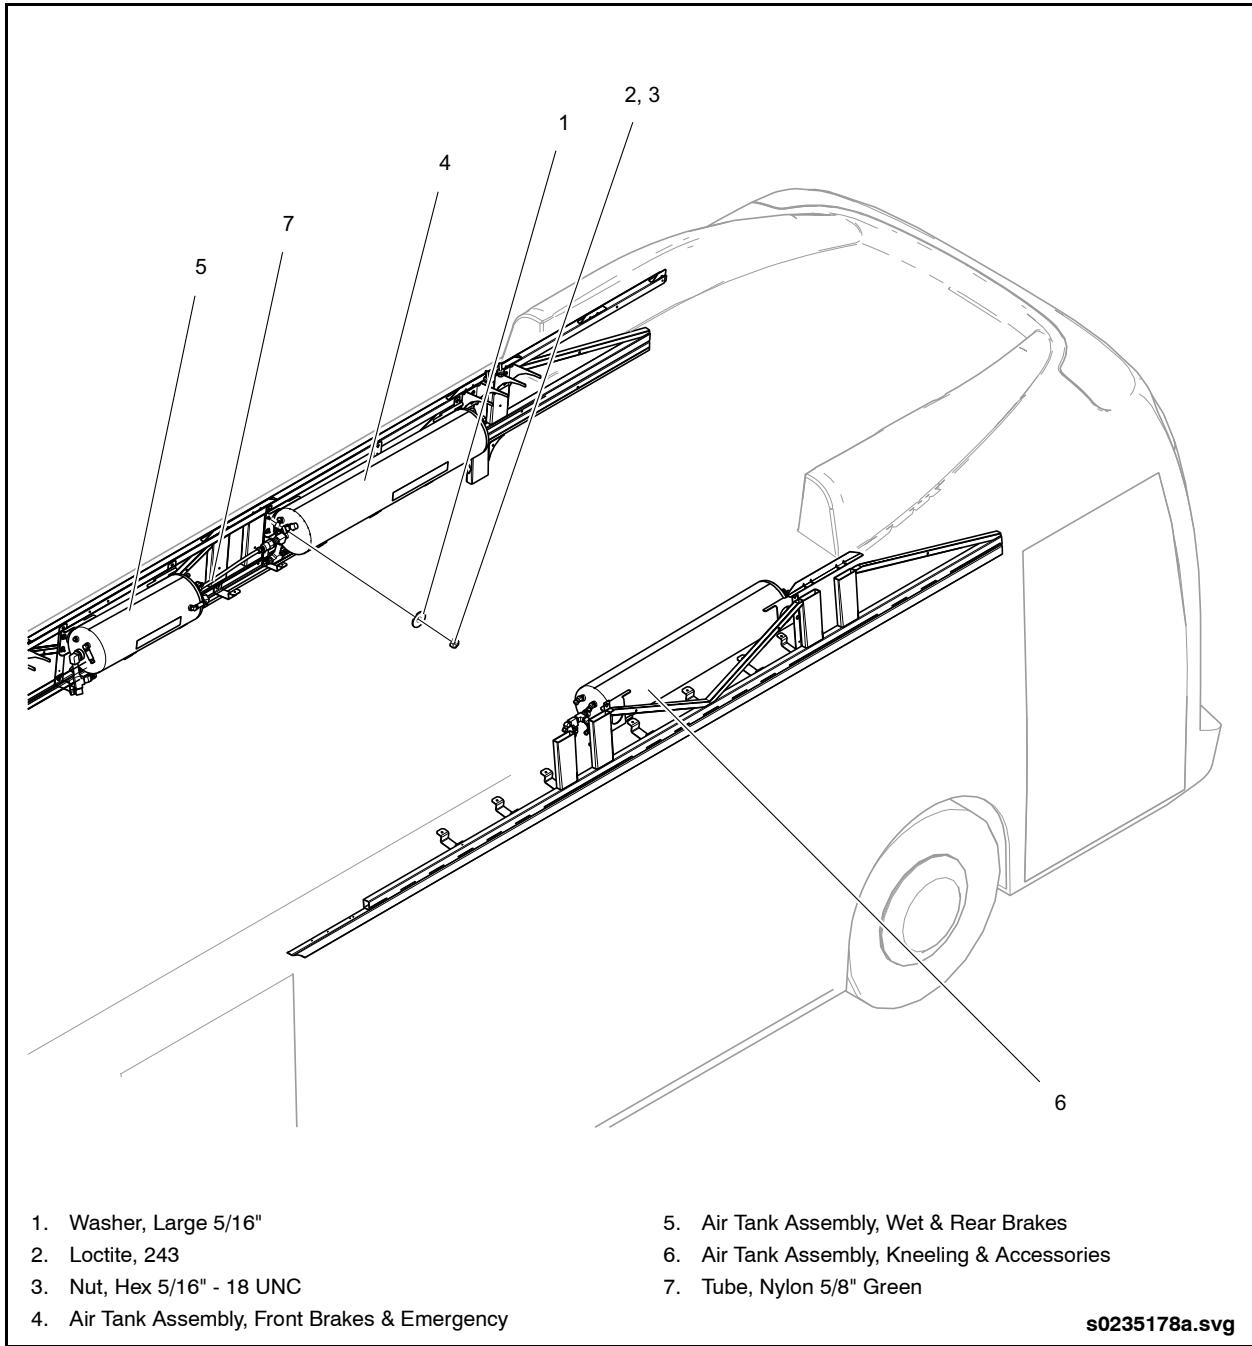

Fig. 8-9: Air Tank Locations
2. Obtain access to the air tank behind the fluorescent light panels. See "Fig. 8-9: Air Tank Locations" on page 44.